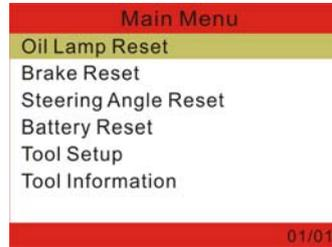

Figure 4-1
The screen will display interface as following figure 4-1.
1. Select "Oil Lamp Reset" in function interface as shown in Figure 4-1 and press [←], Figure 4-2 appears: